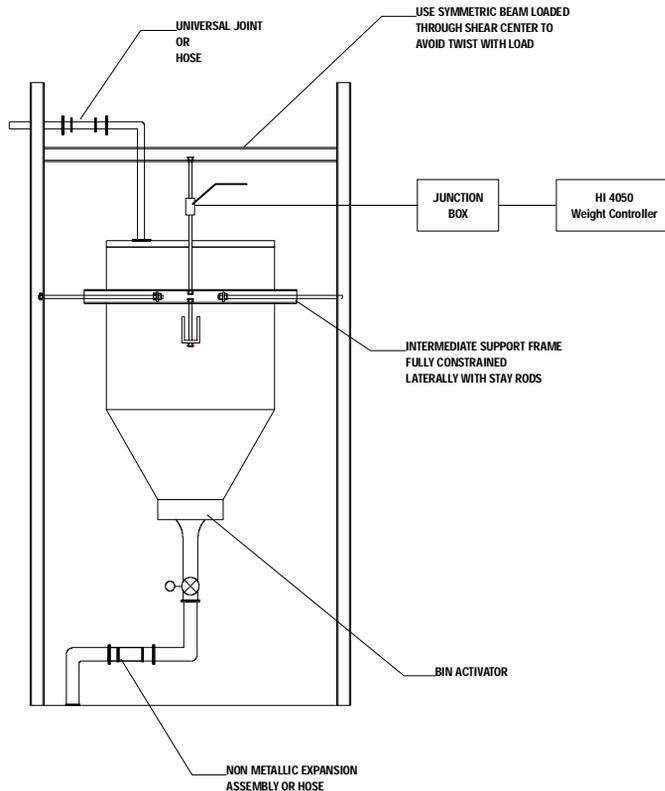

FIG. 428 TYPICAL LOAD CELL SYSTEM
- Step 1. The typical system consists of one or more load cells/points, a summing junction box, and an HI 4050 Weight Controller. (See Figure 428).